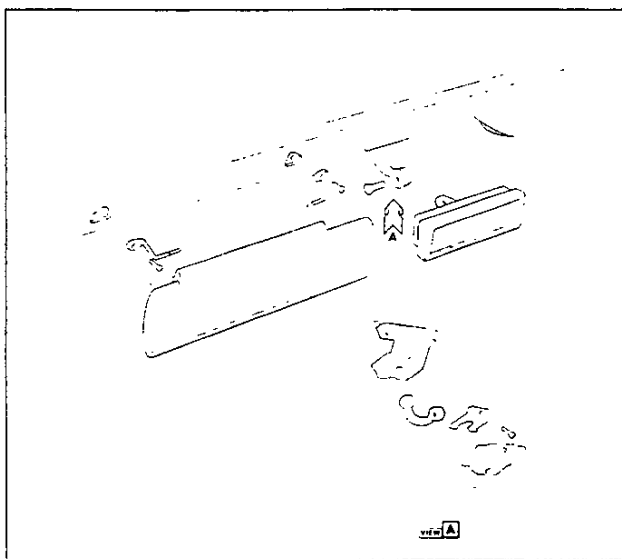

Fig. 12—Sun Visor and Inside Rearview Mirror
Installation of inside mirror is illustrated in Figure 12. Tension of mirror stud is increased by tightening adjusting screw.
Attachment of sun visor assembly to windshield header is made as shown in Figure 12. Turning of adjusting screw clockwise increases friction.
WINDSHIELD (Figs. 12 to 16)
4. Remove lower corner reveal moldings (L and R) by removing two (2) screws located at end flanges to fender, and carefully prying out from retaining clips.
5. Remove side retainer moldings (L and R) by removing three (3) screws to frame.
6. Remove side reveal molding (L and R) by removing one (1) remaining screw.
8. Secure one end of steel music wire to piece of wood for handle. Insert other end through caulking material at lower corner of windshield; then secure end of wire to another piece of wood (fig. 12).